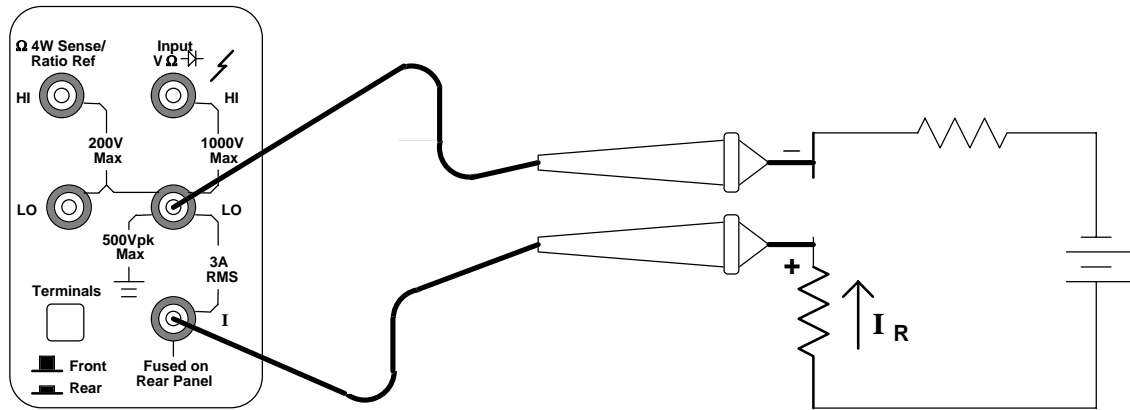

Figure 6 Current measurement. Note where the probes connect to the DMM. Through which terminal does current flow *into* the DMM?
- Use the **I** and **LO** terminals marked **3 A RMS** (see Figure 6). Ammeters must be connected in series with the element so that the current flowing “through” the element will also flow through the ammeter. Therefore, it is necessary to break the circuit and connect the ammeter in series at the break. *Note the lead polarity with respect to the current direction.*